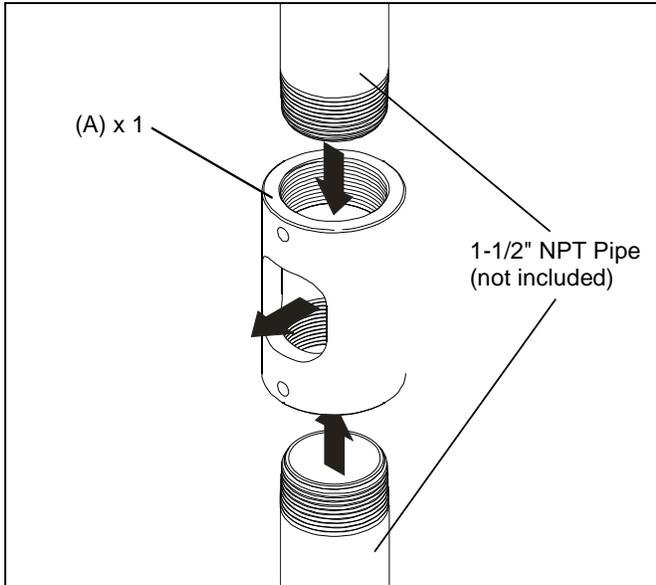

Figure 1
1. Thread coupling (A) onto 1-1/2" NPT pipe (not included) making sure opening in coupling is facing in the desired direction of outlet. (See Figure 1)